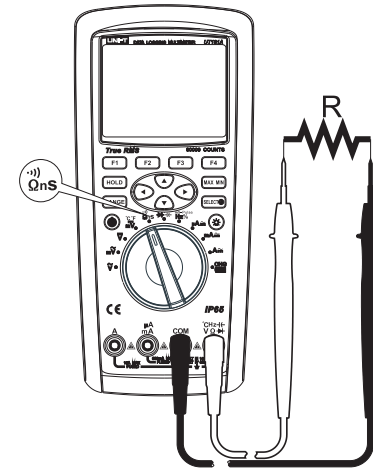

Figure 8
- 2) Set the rotary switch to the measurement Ω nS $\rightarrow$ and current Ω is the default resistance measurement as shown in Figure 8. Connect the test leads to both ends of the measured resistance.
- 2) Set the rotary switch to the measurement Ω ns. press the key SELECT to select conductance measurement 60nS. Connect the test leads to both ends of the measured resistance as shown in Figure 8.
- 2) Set the rotary switch to the measurement Ω nS $\rightarrow$, press the key SELECT to select the continuity test $\rightarrow$. Connect the test leads to both ends of the measured resistance as shown in Figure 8. Press the function key MENU (Menu) to enter the menu items. If pressing the key SHORT (Menu), then the buzzer selects